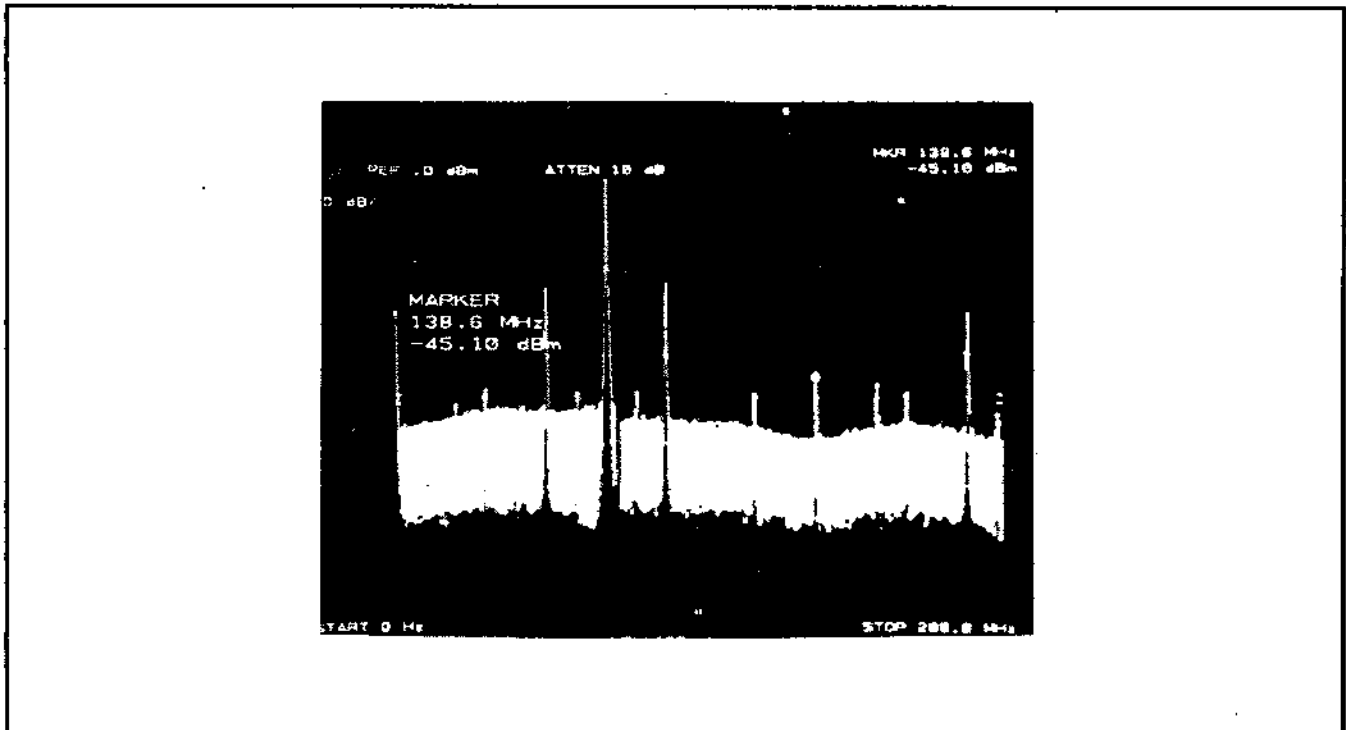

Figure 1
- Adjust A25A1R7 to minimize the second harmonic signal seen on the spectrum analyzer. The second harmonic will be located at about 140MHz (see *Figure 1*).